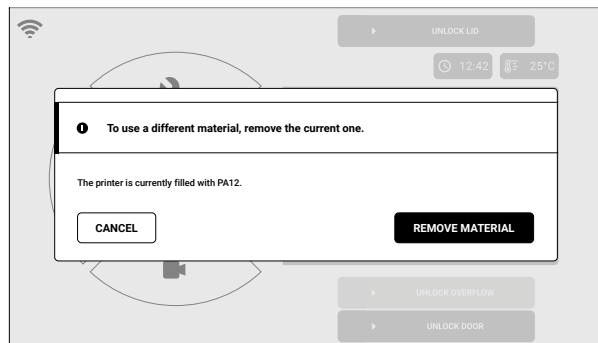

Fig. 10.1 The printer automatically detects a change of material.
3. The printer will also detect whenever you try to start printing with a powder different from the last used one, and prompt you to remove the material (fig. 10.1).